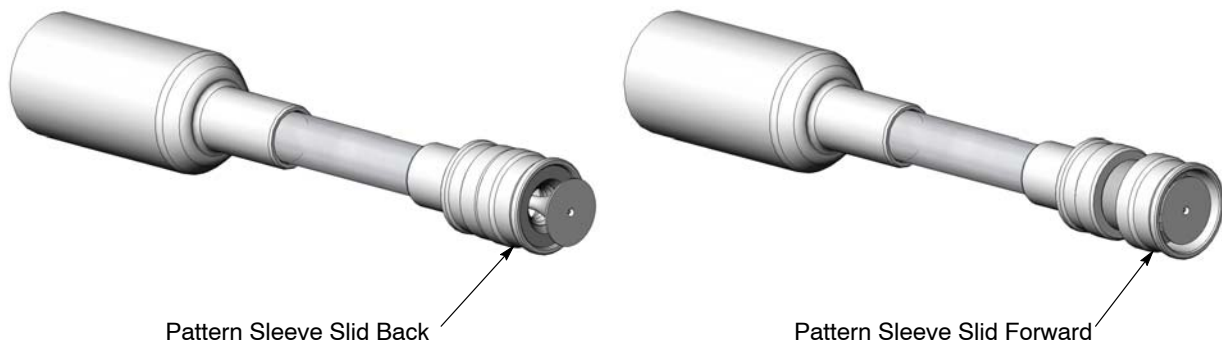

Figure 1 Pattern Adjuster Installed on 150-mm Lance Assembly
5. See Figure 1. Slide the pattern sleeve forward to narrow the pattern, back to widen it.